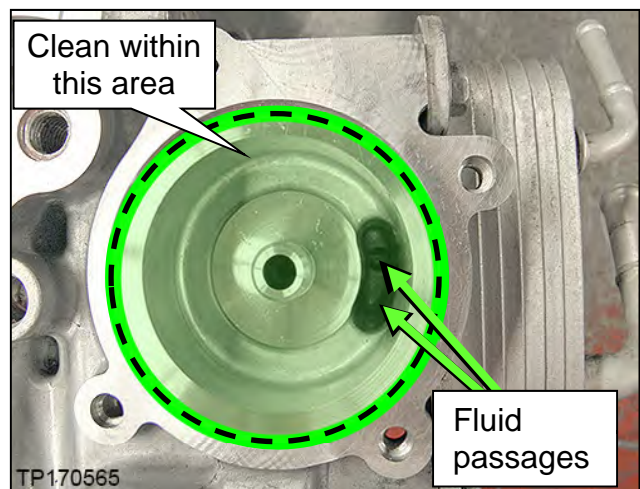

Figure 61
36. Clean the area where the CVT fluid filter fits (Figure 61).
37. Clean the fluid passages to and from the filter (Figure 61).